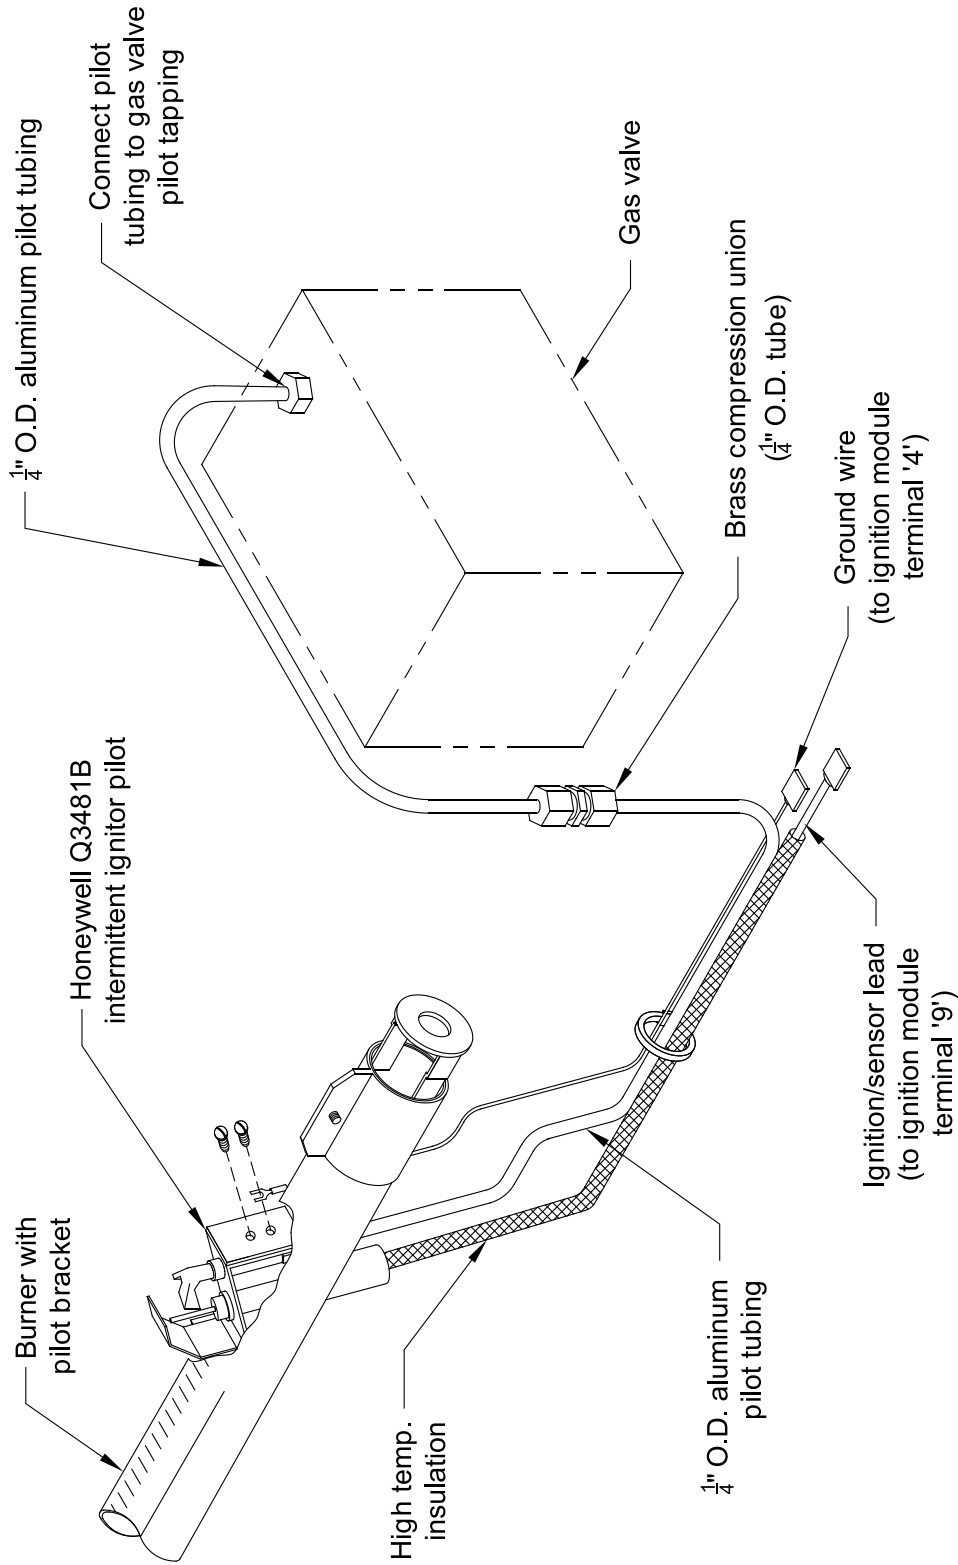

Figure 2-11: Schematic Pilot Piping
2. Install pilot burner piping and controls. See Figure 2-11.